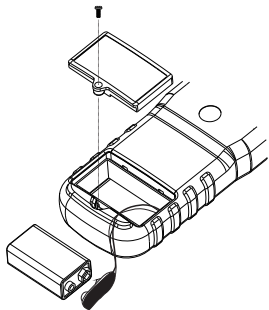

Figure 4. Battery Replacement
The apparatus uses a 9 V battery (supplied). To replace the battery, follow these steps and refer to Figure 4:
4. Replace the battery as shown in Figure 4. Observe the battery polarity shown in the battery compartment.